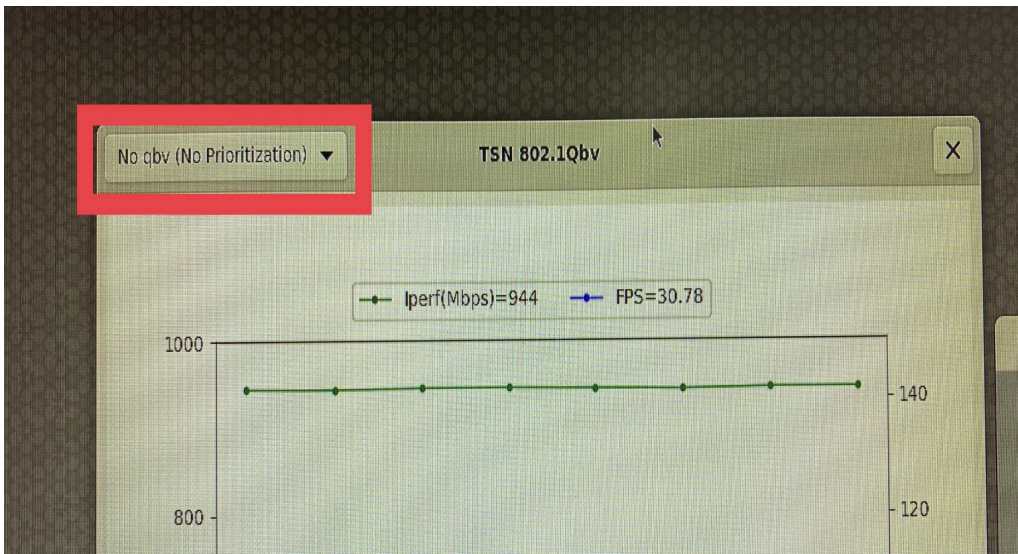

Figure 53. Configuration dropdown button
- To change the TSN Qbv configuration, select the dropdown by clicking the configuration dropdown button. After clicking the button, you can see the UI (Figure 53).